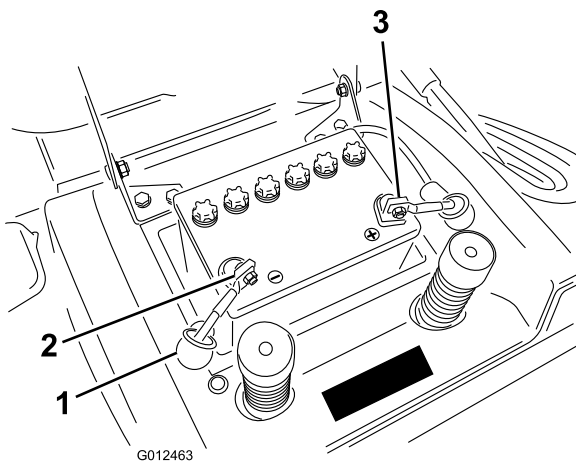

Figure 31
7. Disconnect the negative (black) ground cable from the battery post (Figure 31).
9. Disconnect the positive (red) cable from the battery post (Figure 31).
1. Place the battery into the chassis with the battery posts toward the rear of the machine (Figure 31).
3. Using the bolt and wing nut, connect the positive (red) cable to the positive (+) battery post (Figure 31). Slide the rubber cover over the battery post.
4. Using the bolt and wing nut, connect the negative (black) cable to the negative (-) battery post (Figure 31). Slide the rubber cover over the battery post.